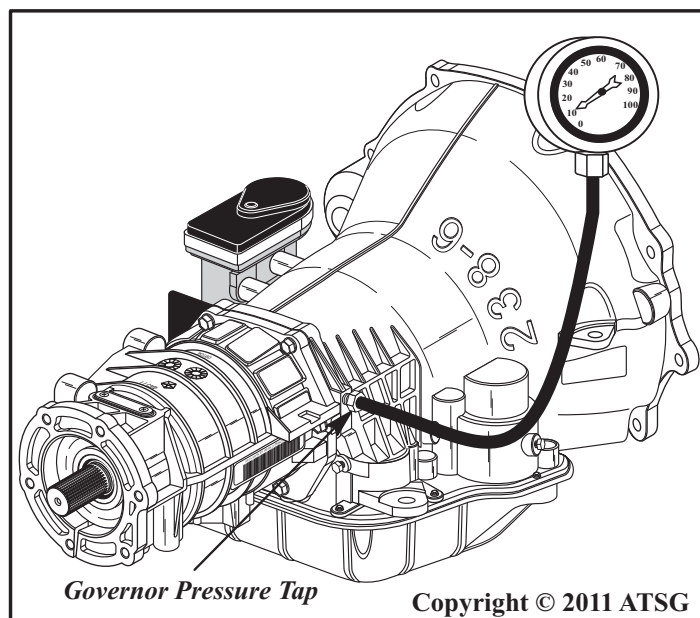

Figure 49
- (1) If the vehicle has a wrong gear start and *does* upshift to fourth gear, place a 100 PSI pressure gauge on the governor tap, as shown in Figure 49. For example, if 0 PSI is observed while taking off in 2nd gear, a sticking 1-2 shift valve is the cause. To correct this condition will require removing the valve body and freeing the 1-2 shift valve.
- (3) Without a capable scanner, voltage checks can be made on the governor pressure solenoid wire and the governor pressure sensor wire with your DVOM. Use a pressure gauge attached to the governor pressure tap as shown in Figure 49. Following is the procedure for these tests.